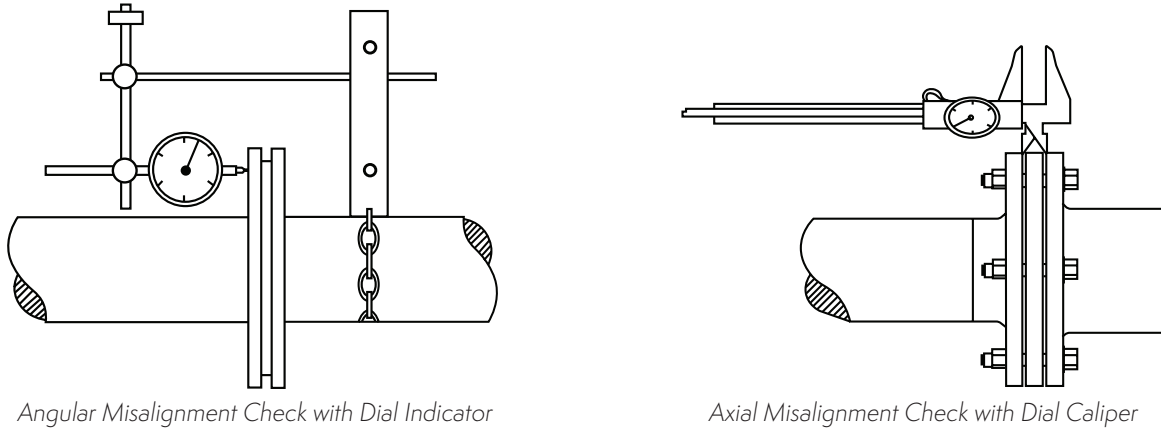

Figure 23 – Checking Angular and Axial Misalignment
6. Check angular misalignment with a dial indicator on **gear drive side**, as shown in **Figure 23**.
14. Check axial misalignment (hub separation) with the dial caliper on both the gear drive side and the motor side (See **Figure 23**).
15. Without rotating the shaft, measure the gap between the shaft flange and the hub flange on both ends. Take four (4) readings around the perimeter at 90° intervals.